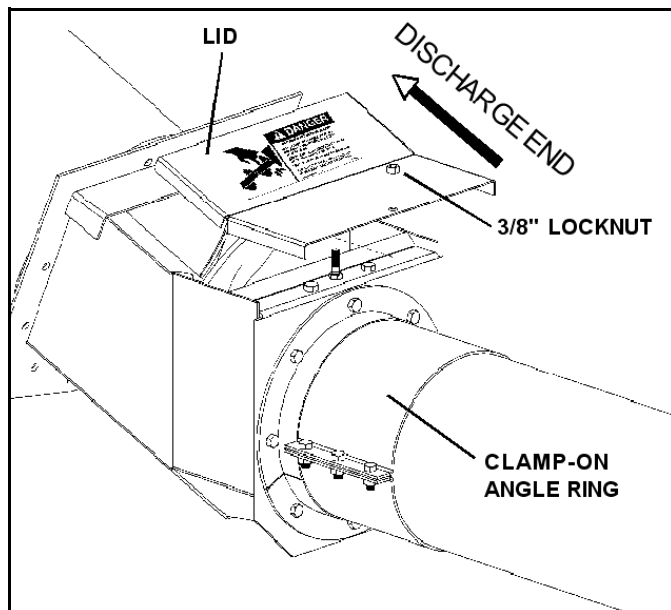

Figure 4.25
9. Using the 3/8" locknut provided, attach transition lid to transition box as shown in Figure 4.25.